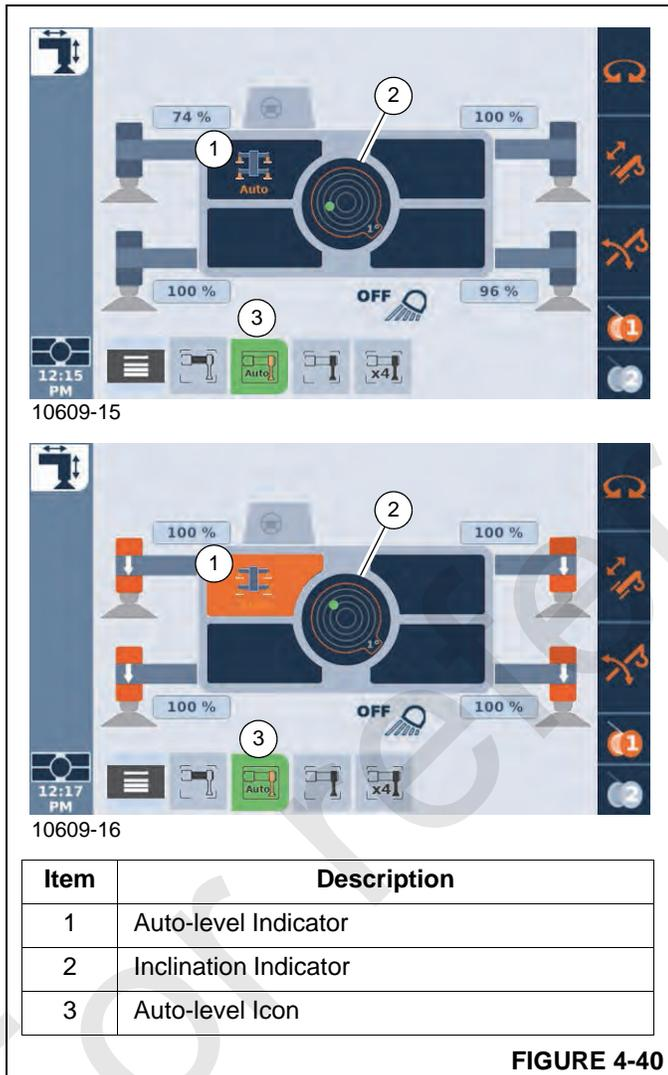

FIGURE 4-40
2. Using the Jog Dial, or the Arrow Buttons at the Navigation Control Pad, select the Auto-level icon (3, Figure 4-40) (icon will turn orange when selected).
3. Press the Jog Dial, or the OK Button at the ODM, to make the Auto-level icon active (icon will turn green when active). The Outrigger Extend/Retract function screen will also change to show the Auto-level indicator (1, Figure 4-40).
After an adjustment is made, the auto-level system will pause for a short time as it does a levelness check of the crane. The operator can watch the leveling process by viewing the inclination indicator (2, Figure 4-40).
When crane is level within 0.10°, the Auto-level Indicator (1, Figure 4-40) flashes. When this occurs, the auto-level process is complete and no further adjustments are made.